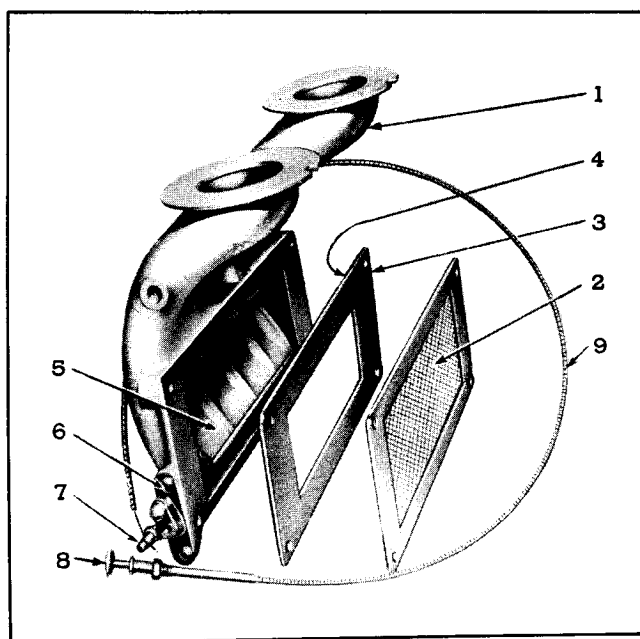

Fig. 8—Manually Operated Emergency Engine Shut-Down Assembly.
1. Manually through a control wire (see Fig. 8).
The manually operated shut-down device shown in Fig. 8 is operated by a knob (8) located on the in-
Some industrial models are equipped with an overspeed trip shutdown mechanism which is driven by the blower drive shaft. If the engine speed accidentally exceeds the speed which has been established by the engine governor, the overspeed governor actuates an overspeed switch. This switch causes the shutdown solenoid to close the shutdown valve and thus stop the engine (see Figs. 8 and 9).